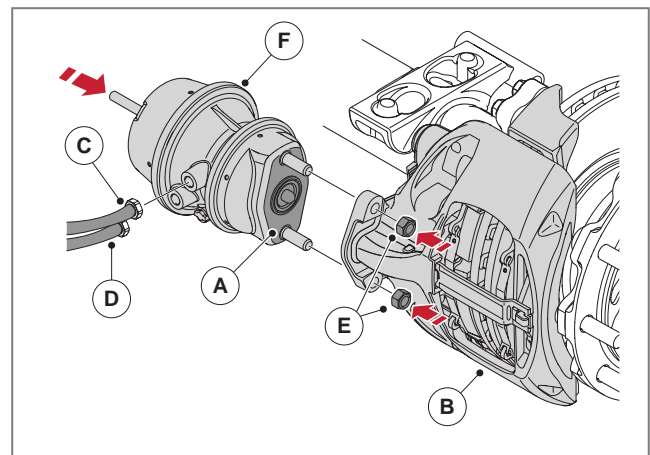

Fig. 46 - Installing the brake chamber components
5. Affix the new brake chamber (A) to the brake calliper (B) using the nuts (E), see ► Fig. 46. Screw on the nuts before tightening in order to ensure parallel seating of the brake chamber. The brake chamber nuts must be tightened to 180 - 210 Nm.
6. Secure the service brake hoses (C) and, if applicable, the parking brake hoses (D). When fitting the hoses, ensure that the connections (C) and (D) are correctly assigned, see ► Fig. 46.